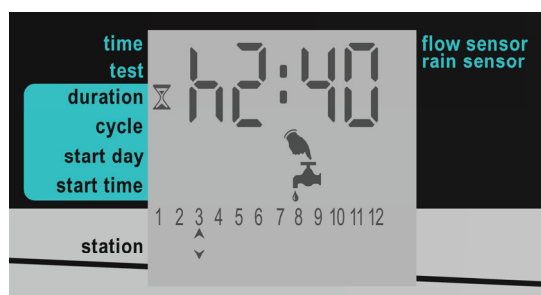

Figure 20: Duration Screen Example
1. Press **↺** until the Duration screen is displayed (Figure 20).
In Figure 20, the duration is set for 2 hours and 40 minutes for station 3. Duration of 0:00 sets the station to never open its valves (and therefore the sequence skips to the next station immediately).